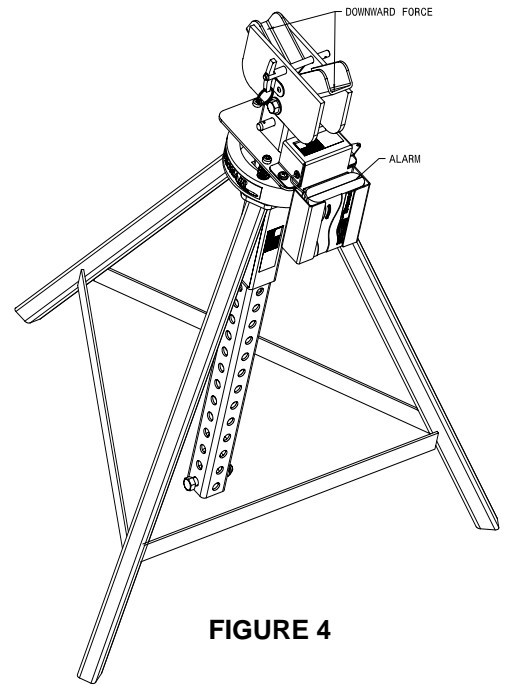

FIGURE 4
2. Test alarm by slowly applying a force evenly distributed across the top of the cradle. The cradle head will lower and engage a limit switch. A loud pulsating alarm will then sound when the force reaches between 100 to 150 pounds (45.36 to 68.04 kg). If alarm does not sound, refer to the Troubleshooting section. **Reference Figure 4.**